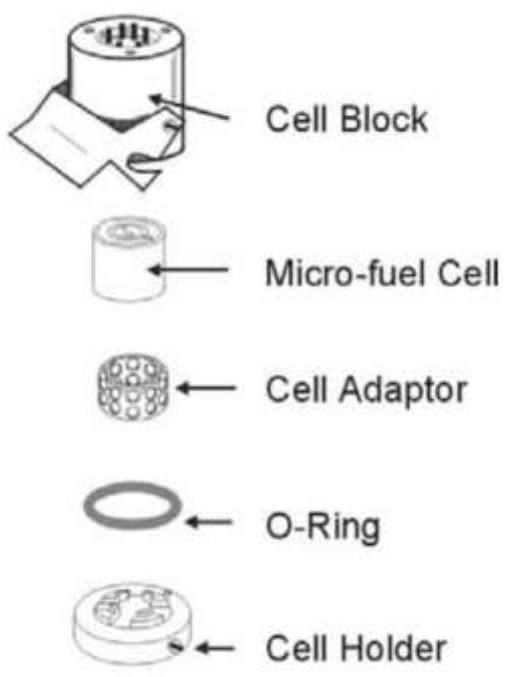

Figure 5-2: Removing the Micro-Fuel Cell
4. The cell holder and the sensor will drop. See Figure 5-2. Depending on sensor used, cell adaptor might not be in.
7. With the MFC installed in the holder, install items inside the cell block in order show shown in Figure 5-2.